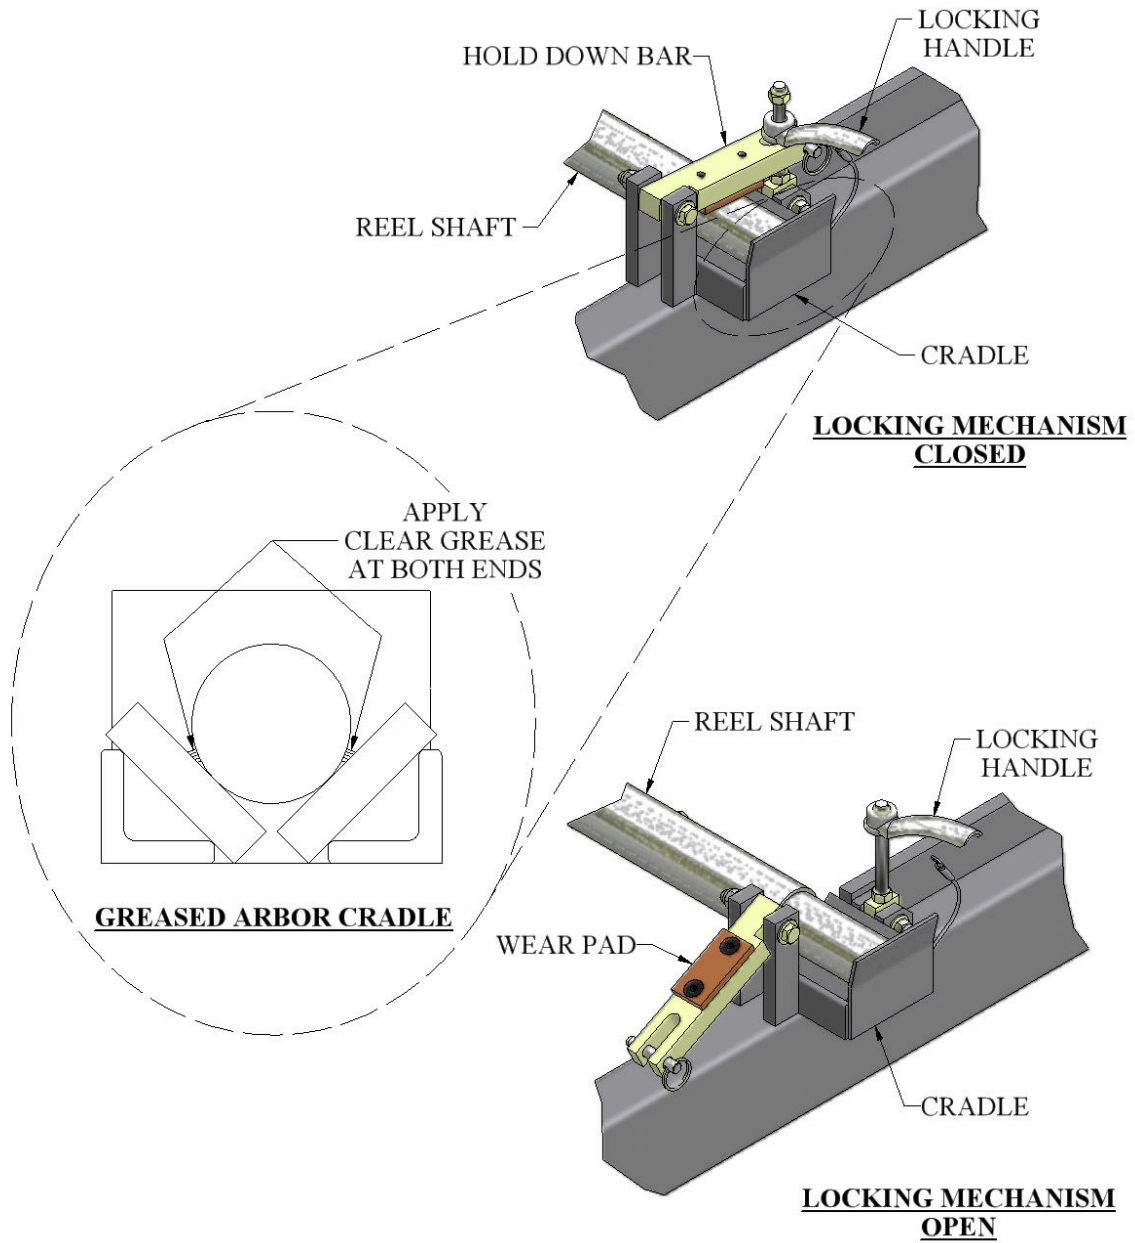

Figure 19: Expandable Reel Assembly
1. The reel shafts must rest in the cradles on the reel rack. Keep the cradles lubricated with synthetic lube to minimize wear. (Figure 19)
2. Use the Hold Down Bars on each cradle to secure the coil and reel to the reel stand during both operation and transit of the machine. The Hold Down Bracket should be used to keep the coil from uncoiling too fast during the fabrication of panels. Apply just enough drag to keep coil tensioned. (Figure 19)
1. Prepare the reel stand by making sure the Hold Down Bars are in the unlocked and open Position (Figure 19).
3. Rotate the Hold Down Bars (Figure 19) to the closed position and thread the handle onto the hold down bolt. If material is going to be used from this coil, tighten the left and right handle just snug. Final adjustment of tension should be made while running a panel to keep reel from unwinding material too fast. As the coil becomes smaller, re-adjustment will need to be made.